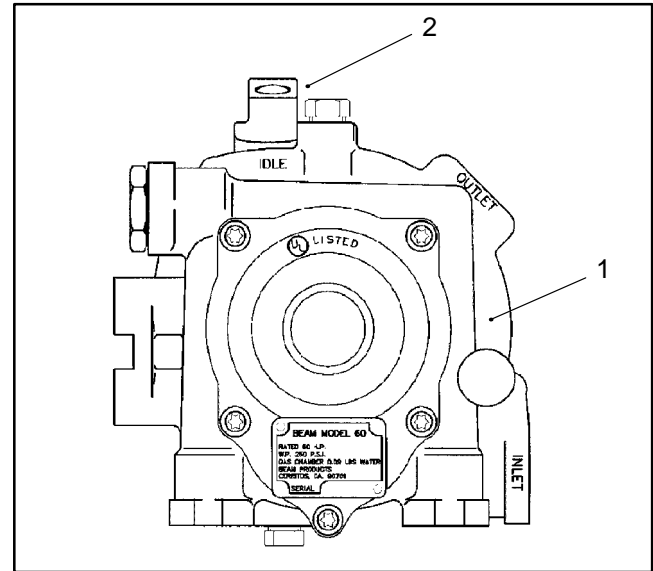

Figure 7
2. Read carefully Precautions for Working on Liquid Propane Gas (LP) Fuel Systems before proceeding further.
4. Reopen tank valve and start engine. Allow engine to reach normal operating temperature. Using idle adjustment screw, adjust for a CO reading of 1 to 3% at idle speed of 1200 rpm (Fig. 7).
6. To prevent tampering with adjustment, install welsh plug over idle mixture screw (Fig. 7).